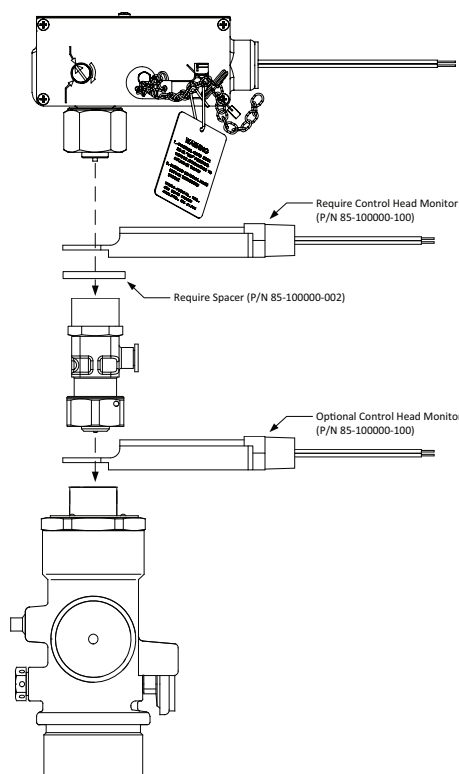

Figure 7. Pressure Operated Control Head Order of Assembly
4. Insert the Control Head Monitor between the electric control head and the spacer as shown in Figure 7.